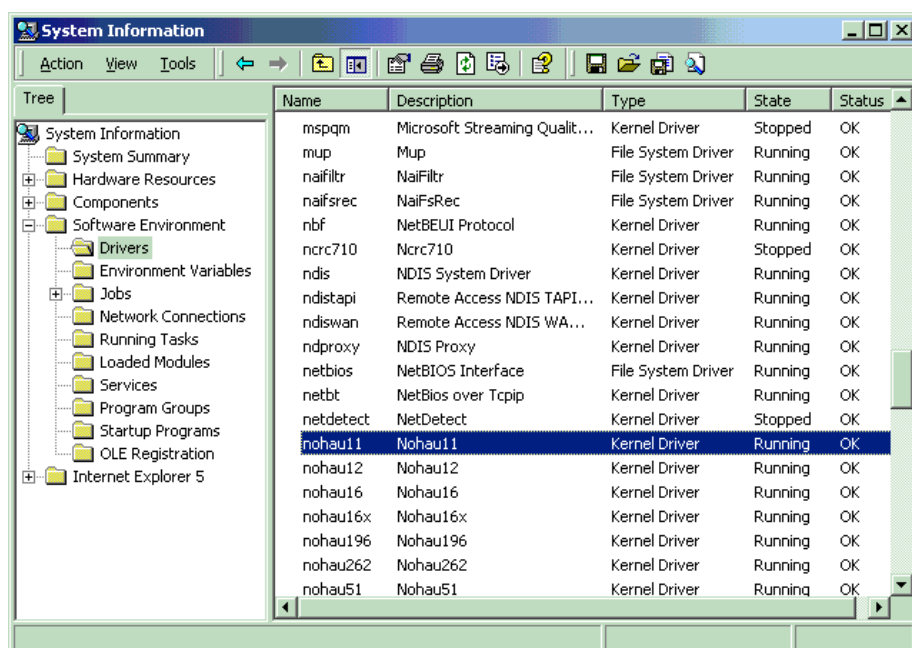

Figure 156. List of Active Drivers
4. Click **Drivers** to display a list of active drivers. Refer to the **Name** column and scroll down to Nohau51 (Figure 156).